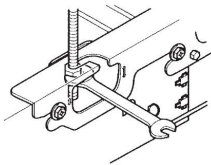

Fig.8
- Insert the spanner from the hanger bracket opening. (Refer to Fig.8)